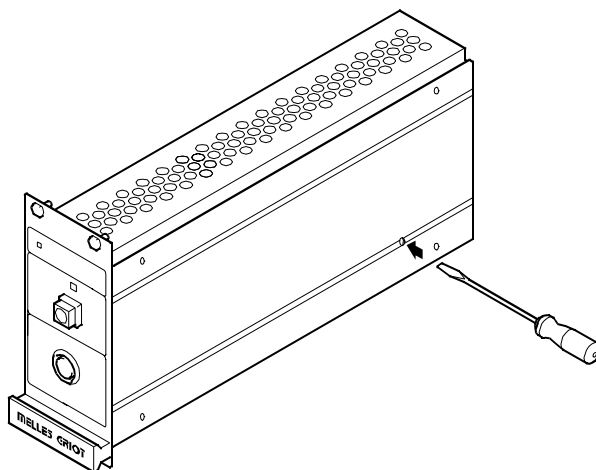

Fig. 8.1 Changing the module address
- 3) Referring to Fig. 8.1, insert a small flat blade screwdriver into the adjustment hole and adjust the potentiometer to allocate a different address. There are 16 settings, 0 to F corresponding to address 32 to 47.